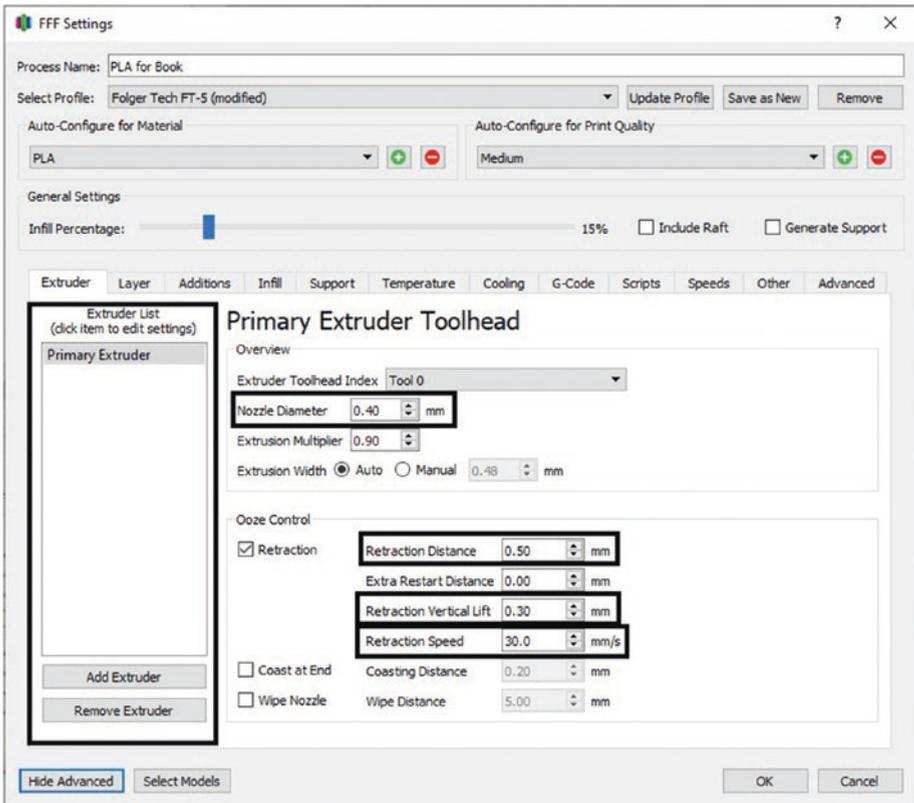

Figure 4-19. Extruder tab
1. Tab 1: Extruder (see Figure 4-19)